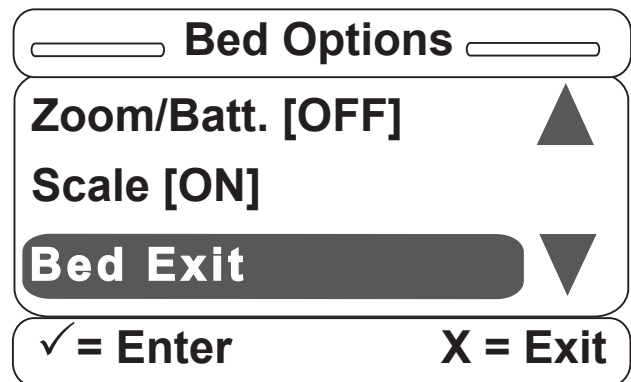

Figure S-11
11. Once the Scale option is set, you will be returned to the Bed Options screen to set the next option, which is Bed Exit (Figure S-11). **Note that you can also see what the previous option was set to.** Select the Bed Exit option and press “Enter” on the footboard panel. If needed, press “Exit” to cancel the operation.